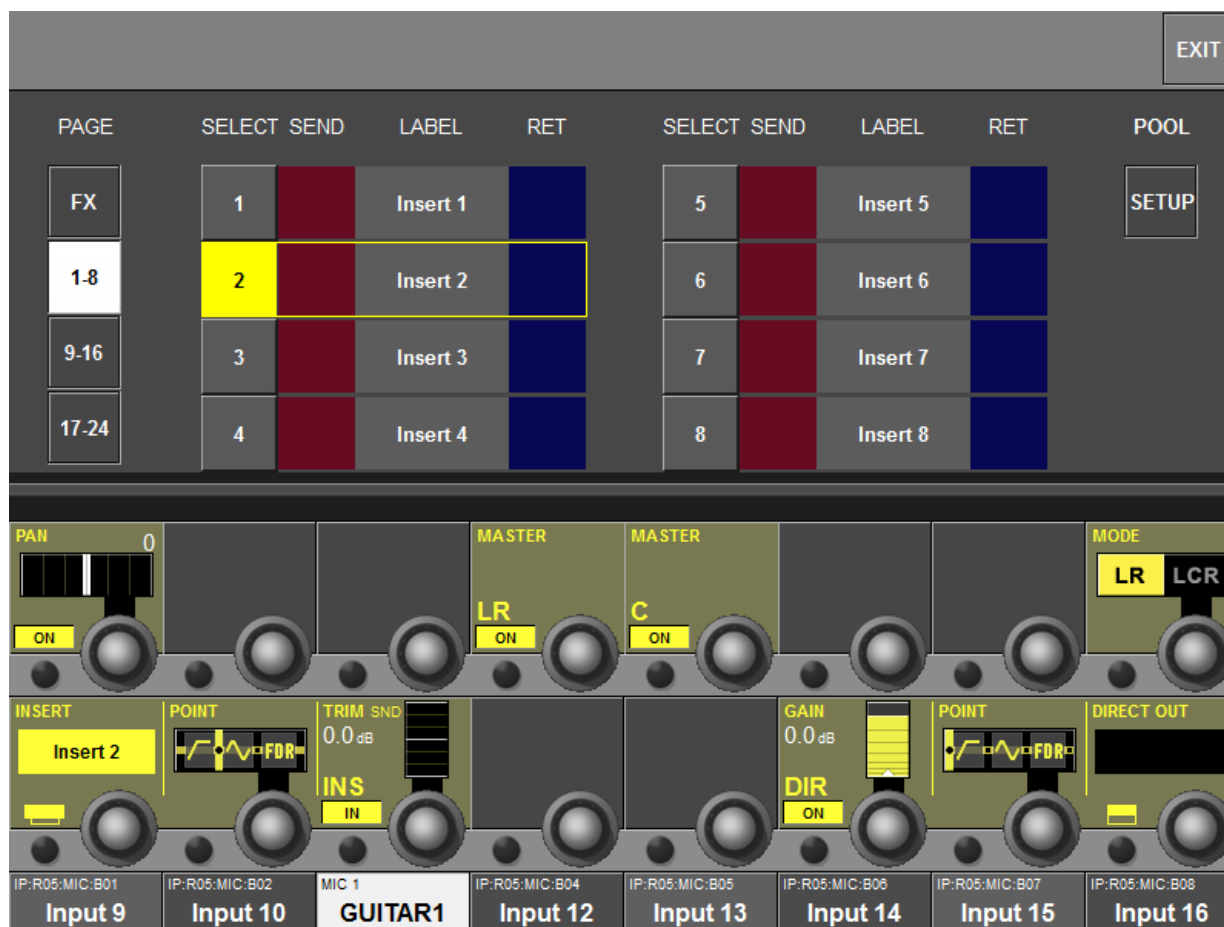

Figure 10-6: Insert Select Page.
- * Press the {INSERT}VST config button. The insert select page will open in the touch area, see Figure 10-6.